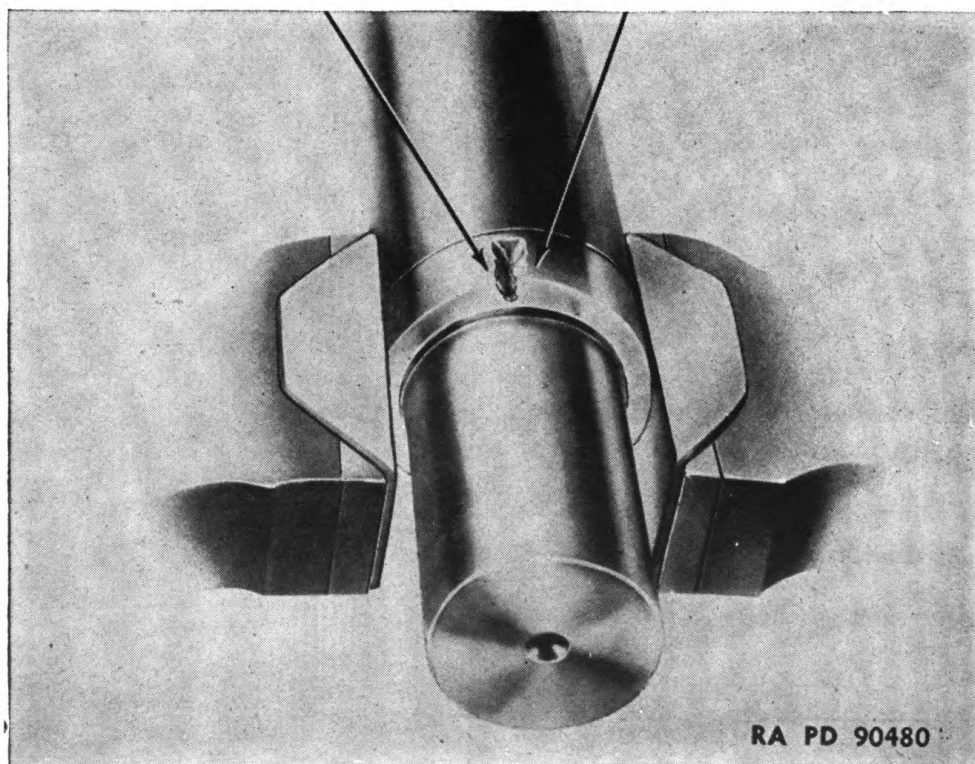

Figure 26. If ring has been cut to remove, squeeze in vise and strike smartly at points indicated to fracture it. Be careful of shaft.
f. **GRINDING AND SPLITTING.** Sometimes a separable inner ring is installed against a shoulder of equal diameter so that there is no way to grip it. Leave the bearing ring on if it is usable. Otherwise, when no other method of ring removal can be used, the ring must be cut off with a torch. Using a grinder or acetylene flame, burn it part way through in order not to harm the shaft. This may loosen the ring enough so that it can be pulled off. If not, crack through the rest of the way with hammer and cold chisel. (See fig. 26.) The chisel should not be directed